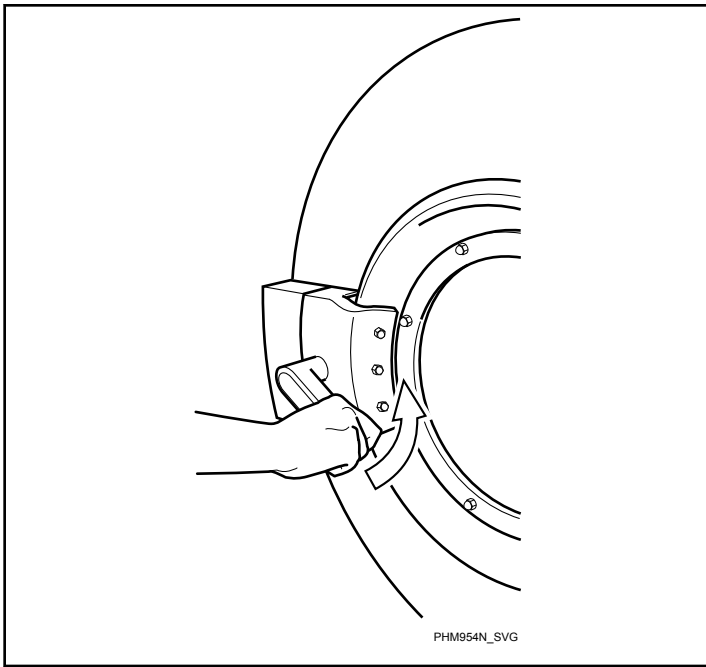

Figure 42
4. Close the door by rotating the handle counterclockwise. Refer to *Figure 42*.